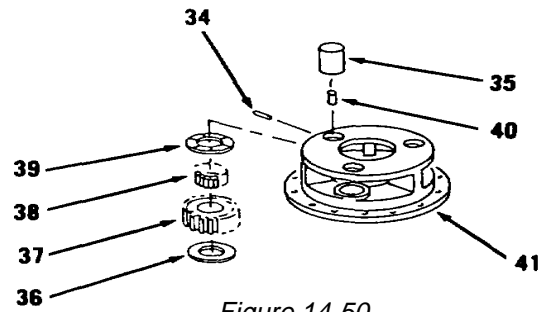

Figure 14-50.
20. Using punch and hammer, position three pins (34) and drive into shafts (35, Figure 14-50).
21. Remove three shafts (35), discs (36), gears (37), rollers (38) and discs (39) from carrier (41).